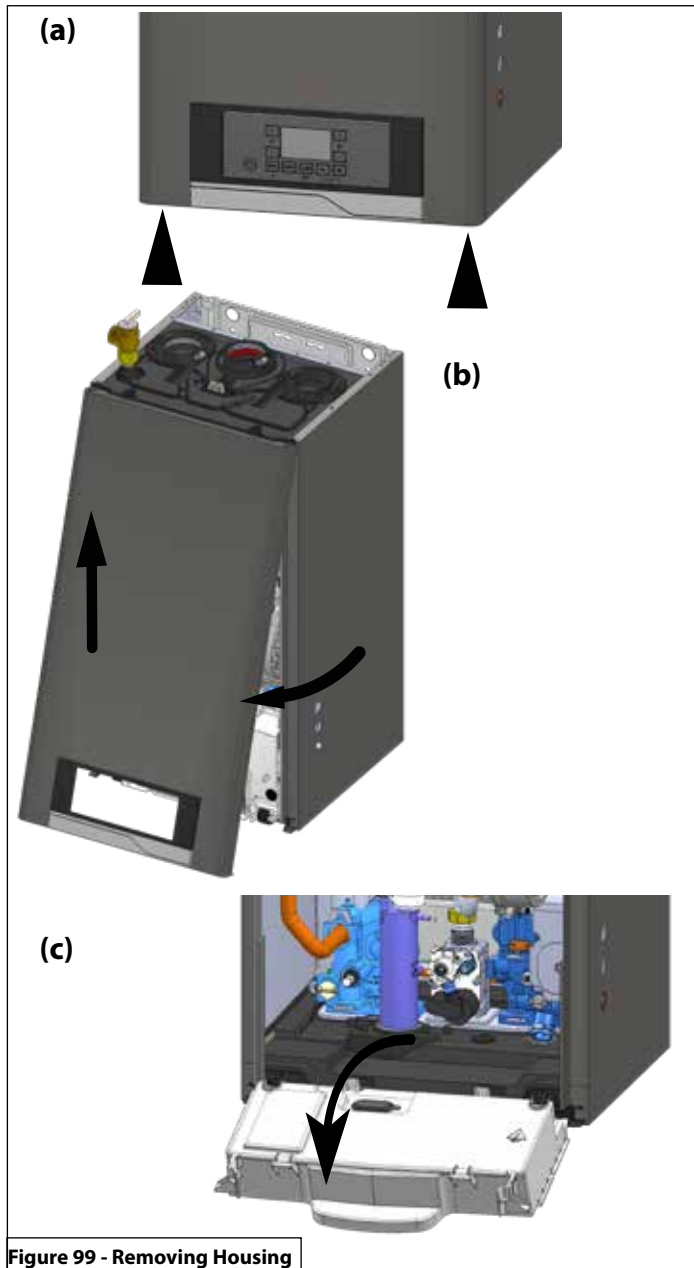

Figure 99 - Removing Housing
See Figure 99 to access the interior of the boiler:
- Remove the front panel as shown in Figure 99.